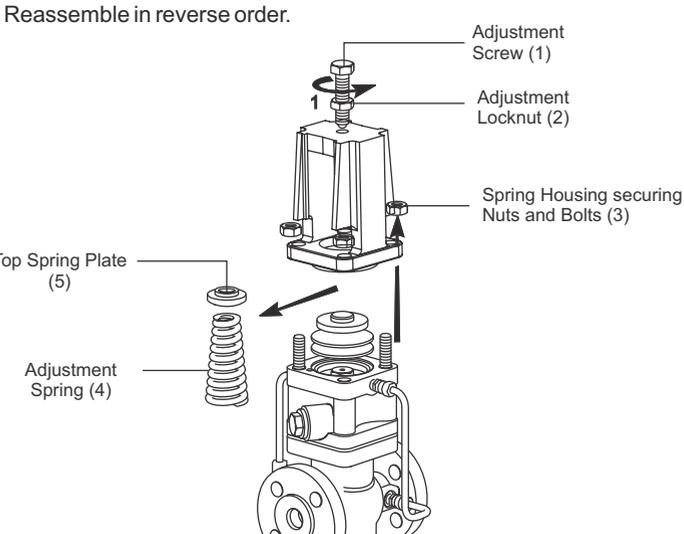

Figure 11: Pressure adjustment spring
7.4 Procedure to renew or change the pressure adjustment spring: (Refer to Figure 11)